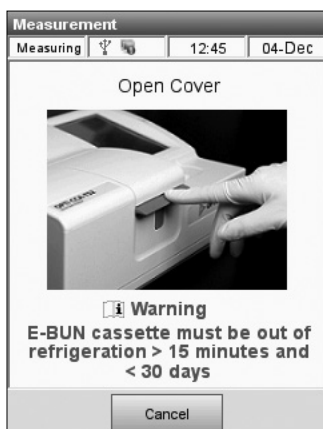

Fig. 5-12 E-BUN Open Cover
- Open the sample chamber cover by pressing down on the center of the red latch (Fig. 5-12).
NOTE: For E-BUN cassettes, out-of-storage warnings will be displayed (Figs. 5-12 - 5-14). This function is enabled by default and can be disabled in the System>Setup menu (see Section 3.2.2.2.)